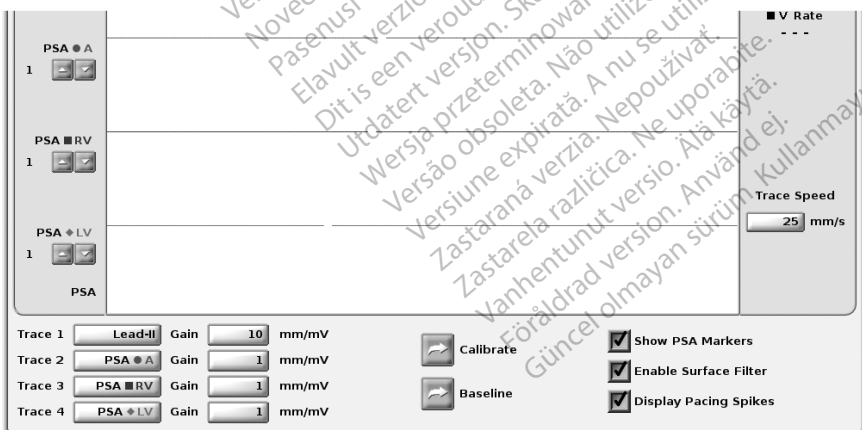

Figure 9. Lead Traces panel example (lower portion, magnified)
- For each displayed trace, Gain buttons  provide the ability to increase or decrease the gain for each trace. The amount of gain displays to the left of the Gain buttons. See Figure 9 on page 19 and see callout [1] in Figure 7 on page 18.
- The Magnify Traces button  enlarges the lead trace area to fill the display window and provides additional information at the bottom of the traces display. See Figure 9.